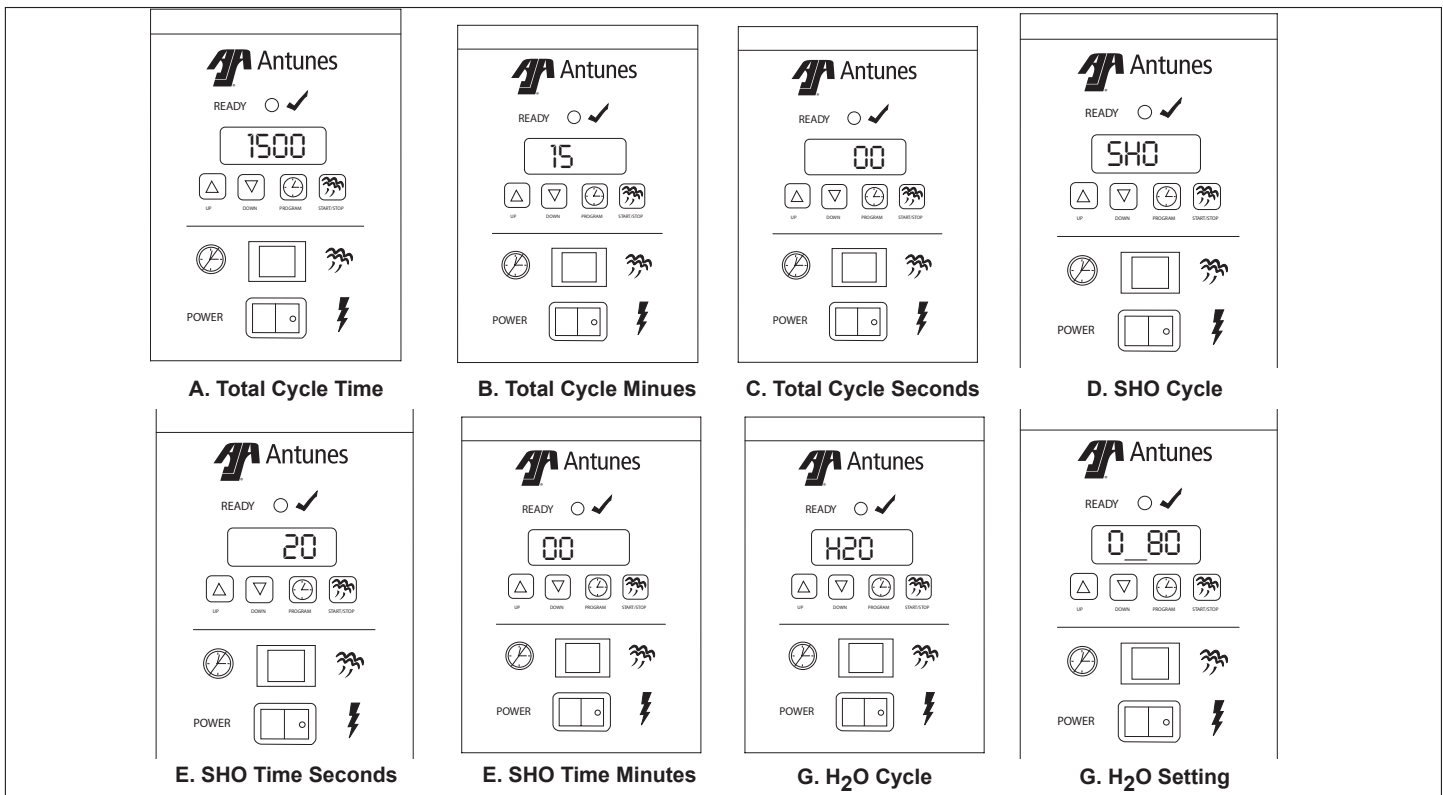

Figure 4. Control Programming Sequence
To program the control, refer to **Figure 4** and use the following procedure in sequence:
1. Turn the power on. The display shows the factory programmed Total Cycle Time in minutes and seconds (Item A, Figure 4).
3. To change the Total Cycle Time in minutes, use the UP or DOWN Arrow buttons to change the time (Item B, Figure 4).
4. Press and release the Program button again and use the UP or DOWN arrow buttons to change the Total Cycle Time in seconds (Item C, Figure 4).
5. To change the SHO factory settings, make sure the control is in Program mode, then press and hold the two arrow buttons simultaneously for 1-2 seconds and then release. SHO will be displayed (Item D, Figure 4).
6. Press and release the Program button and use the UP or DOWN arrow buttons to change the SHO setting in seconds (Item E, Figure 4).
7. Press and release the Program button again and use the UP or DOWN arrow buttons to change the SHO setting in minutes (Item F, Figure 4).
8. Press and release the Program button again and "H2O" is displayed (Item G, Figure 4).
9. To change the H2O setting, press and release the Program button again to display the setting (Item H, Figure 4). Use the UP or DOWN arrow buttons to increase or decrease the time.